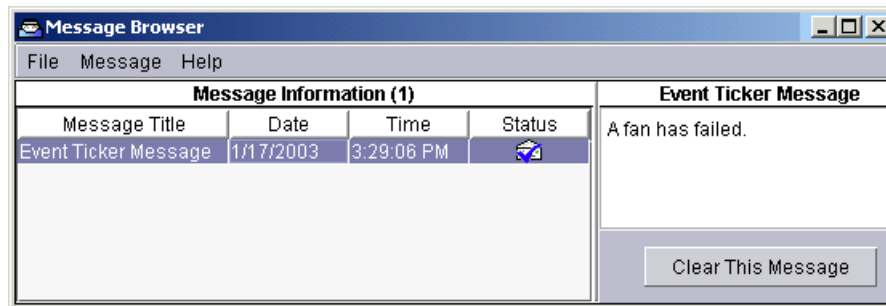

Figure 5-10 Message alert
16. To complete testing, we recommend removing one of the fans from the top of the x450. Within approximately 10 seconds, an alert should appear on the Director Console similar to the one in Figure 5-10.